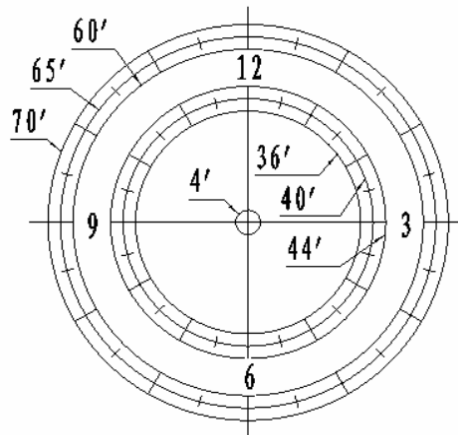
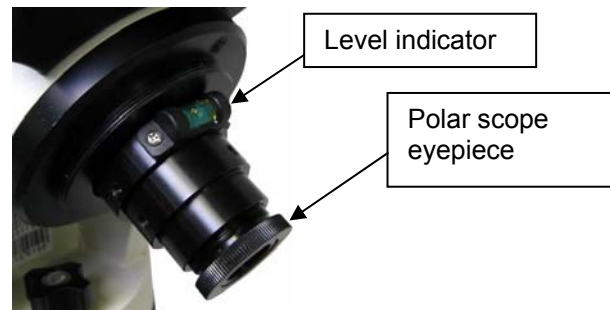

Figure 11. Polar Scope Dial
Figure 12. Polar scope with bubble level indicator
As indicated in Figure 11, the Polar Scope Dial has been divided into 12 hours along the angular direction with half-hour ticks. There are 2 groups, 6 concentric circles marked from 36' to 44' and 60' to 70', respectively. The 36' to 44' concentric circles are used for polar alignment in northern hemisphere using Polaris. While the 60' to 70' circles are used for polar alignment in southern hemisphere using Sigma Octantis.
During initial setup of the iEQ mount, it is likely that the viewing hole on the DEC axis of the polar scope may be blocked by the DEC axle. The Polar Scope Dial in the polar scope may not be set at the normal clock position with 12 located at the top, as shown in Figure 11. Before doing the Quick Polar Axis Alignment, complete the following steps:
- (1) Take off both the Polar Axis Cover and the Polar Scope Cover from the mount.
- (2) First, thread the dark field illuminating LED end into the threaded hole located on the Polar Scope. Then plug the other end into the Reticule socket located on the R.A. unit. The illumination intensity can be adjusted using the hand controller (HC) via the “**Set Eyepiece Light**” function under the “**Set Up Controller**” menu.
- (3) Use the ▲ or ▼ button to turn the DEC axle to unblock the Polar Scope view.
- (4) Adjust polar scope eyepiece shown in Figure 12 to bring the polar scope dial in focus.
- (5) To rotate the Polar Scope to align the 12 position of the dial on the top, as shown in Figure 11, release the four R.A. clutch screws while holding the OTA, if an OTA is mounted. Then turn the R.A. drive using HC’s ◀ or ▶ button (press 9 button to change the rotation speed to MAX). If your Polar Scope is equipped with a bubble level indicator, as shown in Figure 12, simply make sure the bubble is in the middle.